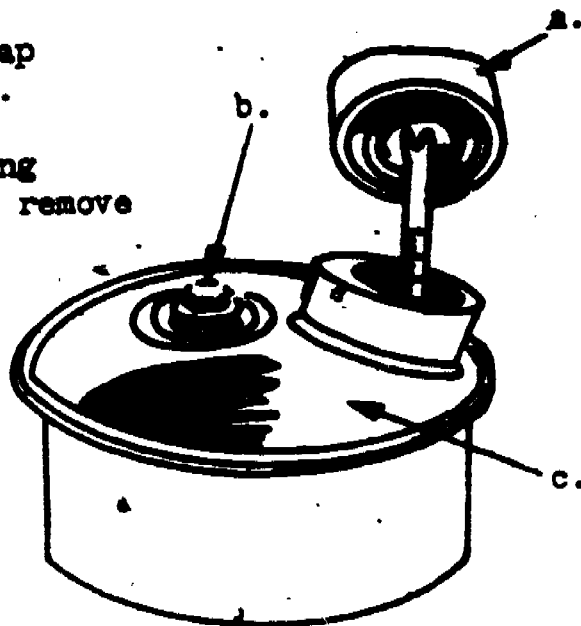

Figure 1
- STEP 1. Remove the reservoir filler cap assembly (Item a in Figure 1).
- STEP 2. Loosen reservoir cover mounting bolt (Item b in Figure 1) and remove reservoir cover assembly (Item c in Figure 1).